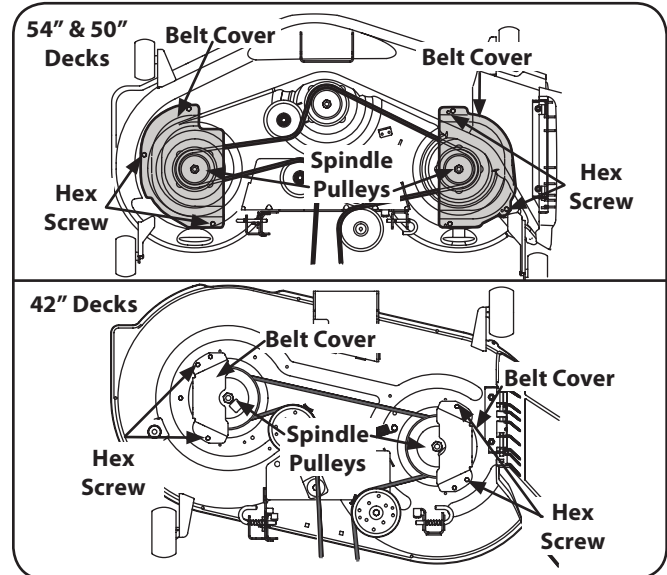

Figure 7-6
2. Remove the hex screws securing the belt covers to the deck and remove the belt from the spindle pulleys. Refer to Fig. 7-6.
3. Install the new belt around the spindle pulleys as shown in Fig. 7-6 and reinstall the belt covers.